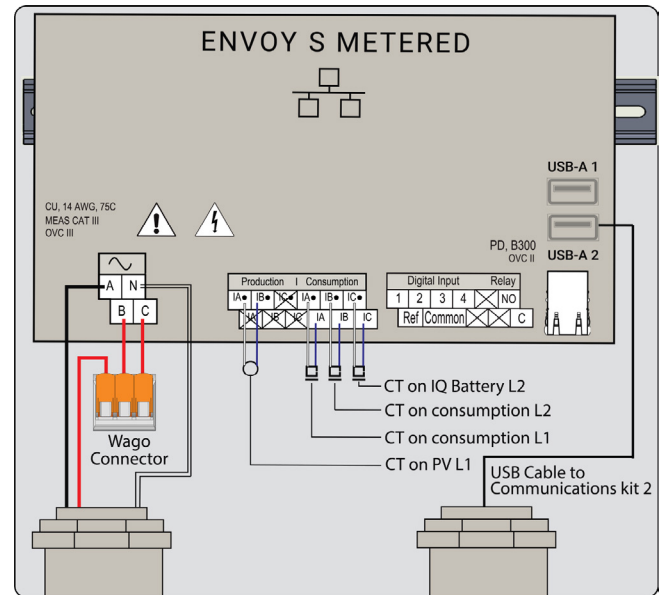
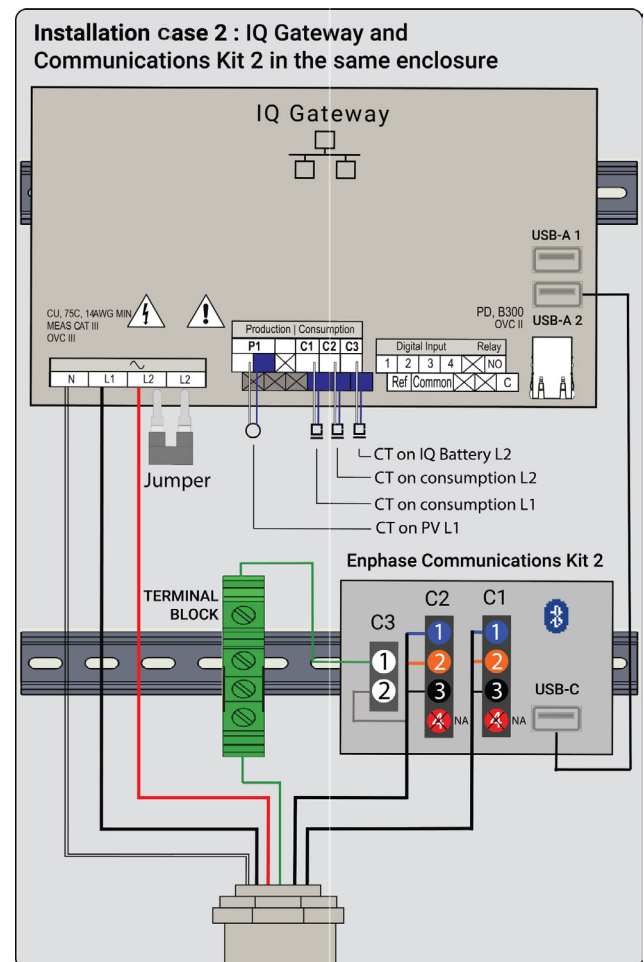

Figure 8: Envoy S Metered wiring
Figure 9: Wiring diagram when the IQ Gateway is installed in the Communications Kit 2 enclosure
- Connect the CT lead wires to the C3 port on the consumption meters on the IQ Gateway (refer to Figure 9 for the wiring diagram). In case of an Envoy S Metered, connect it to the IC and IC consumption ports as shown in Figure 8.